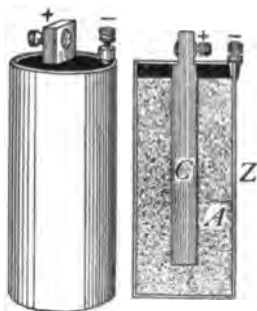

FIG. 223.—The Leclanché cell, "dry" type.
**250. The Dry Cell.**—Many forms of Leclanché cells are made. One of these is called the *dry cell* (See Fig. 223.) In this cell the zinc plate is made into a jar or can and contains the other materials. At the center of the cell is a rod of carbon and manganese dioxide. The space between the carbon and zinc is filled with a porous material such as sawdust or plaster of Paris. A strong solution of sal ammoniac fills the porous material. The